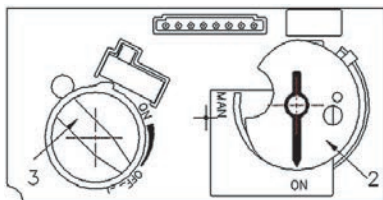
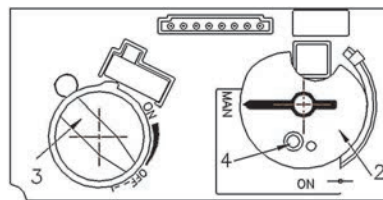
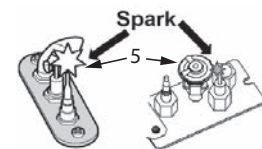

Fig 1
Fig 2
Fig 3
2. SET ON/OFF SWITCH (1) TO "OFF" POSITION.
- Wait five (5) minutes to clear out any gas, then smell for gas, including near the floor. If you smell gas, STOP! Follow "B" in the safety information above on this label. If you don't smell gas, go to the next step.
3. **AUTOMATIC IGNITION (fig. 1):** Locate the pilot (fig 3.) inside of firebox at Left Hand side.
- ON/OFF switch (1) in ON position, MAN-knob (2) in ON position; set Flame Adjustment knob (3) to lowest setting (∩);
- When the pilot is lit, the Flame Adjustment knob (3) will automatically rotate to the highest setting.
4. **MANUAL IGNITION (fig. 2):** With the window off, locate the pilot (fig. 3) inside of firebox at Left Hand side;
- ON/OFF switch (1) in ON position, MAN-knob (2) in MAN position;
- Set Flame Adjustment knob (3) to the lowest setting (∩);
- Push down the metallic core (4) with a pen or similar instrument; this will establish the pilot gas flow;
- **Light gas at the pilot (5) with a match;**
- Continue holding down metal core (4) for about 10 seconds; after release, pilot should remain lit;
- If the pilot will not stay lit after several tries, turn the gas control knob (3) to "OFF" (∩) and call your local service technician or gas supplier.